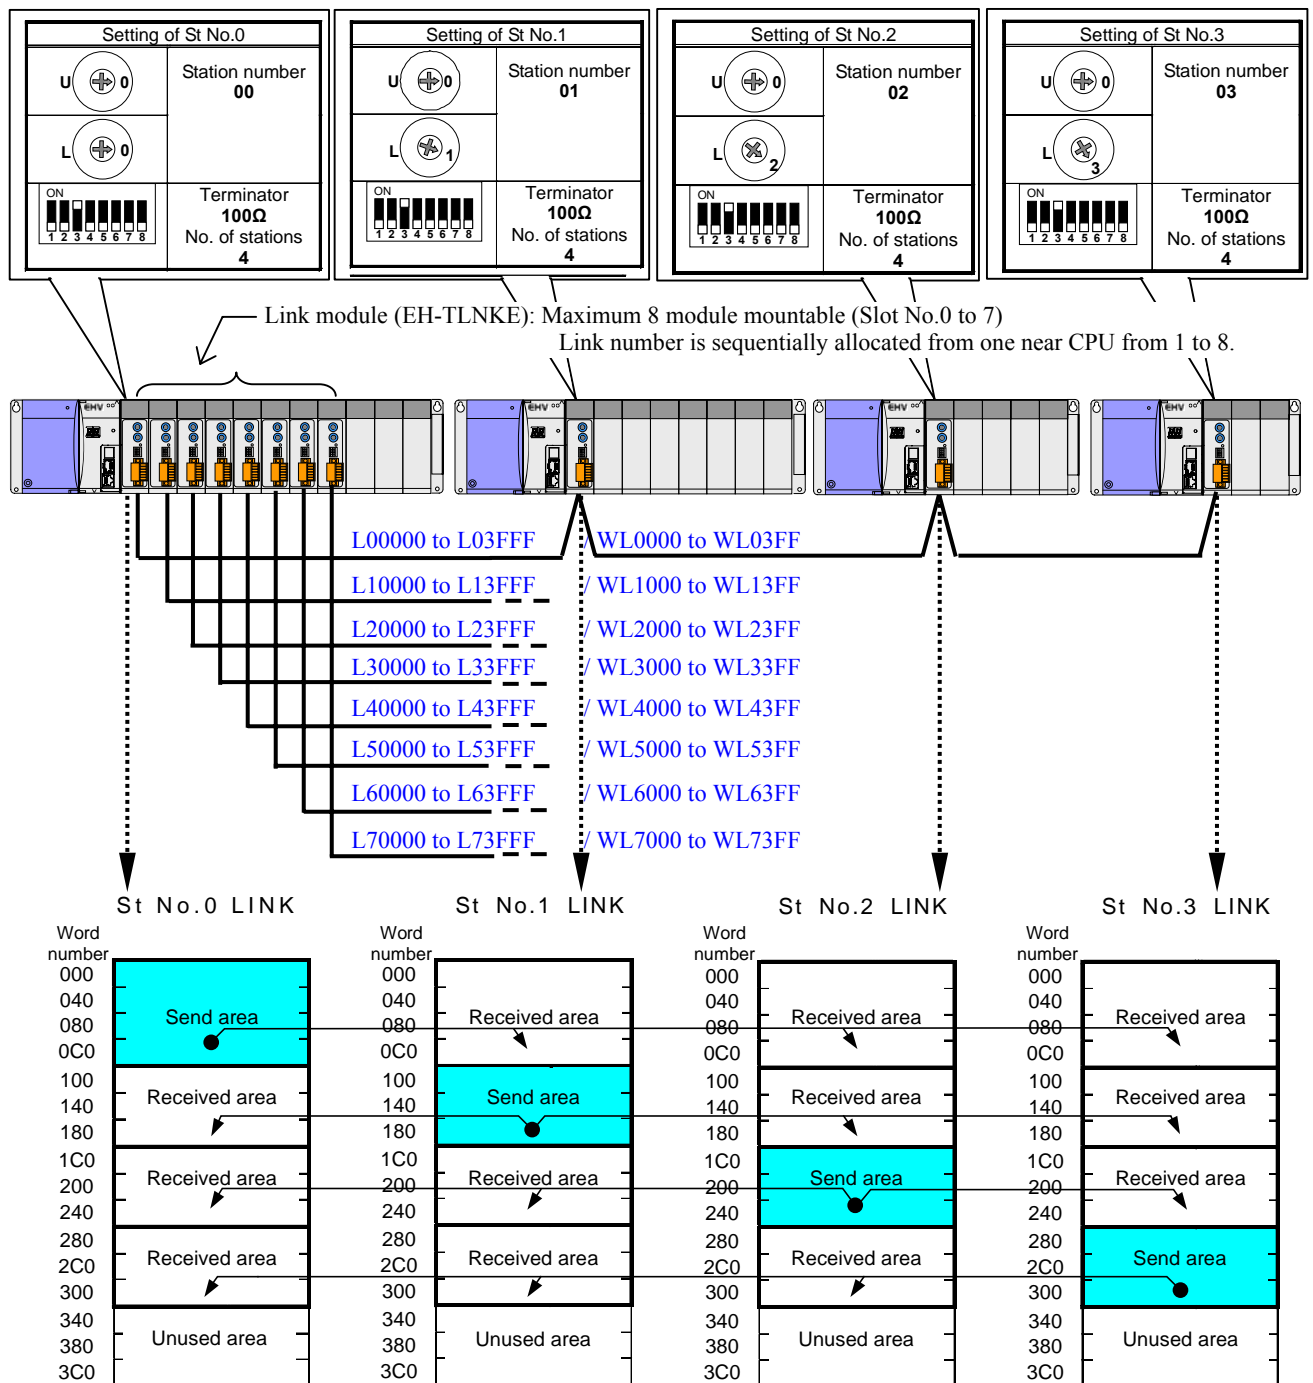

Figure 4.3.1 System configuration example-1 (I/O assignment of "LINK")
Figure 4.3.1 is the system configuration example that compact link modules were set to normal mode. When the compact link module was set to normal mode, I/O assignment becomes "LINK". Refer to section 3.1 for the setting method of the normal mode.
- 3) Normal mode can connect to maximum 32 stations per system. (Figure 4.3.1 is the example that 4 stations were connected.)